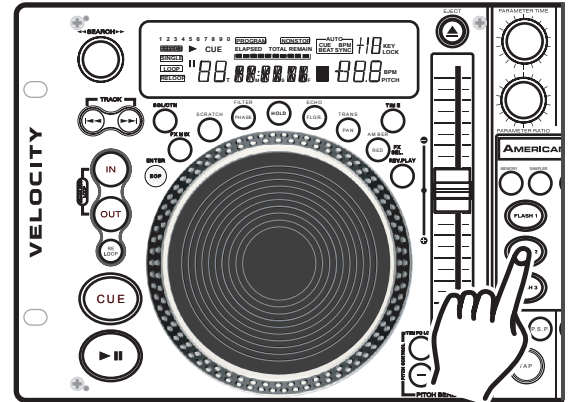

Figure 31
- 1) Press the *PLAY/PAUSE BUTTON (22)* so music is playing (Figure 31).